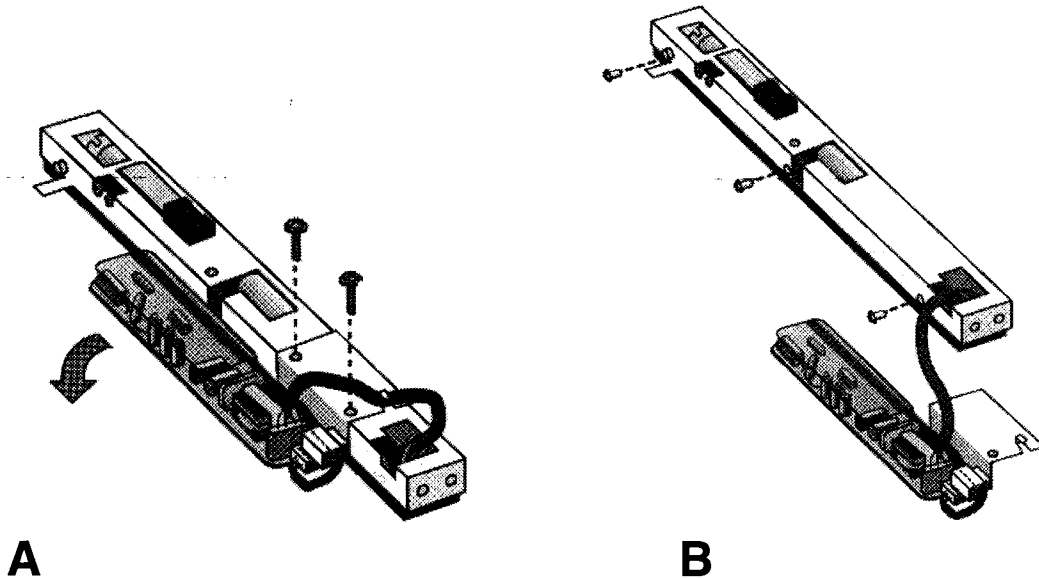

Fig. 5.6 Removing the screws from the lamp cover.
12. Remove the two screws from the inverter board as indicated in Figure 5.6 (A).
13. Remove the side three screws on the lamp cover as indicated in Figure 5.6 (B).